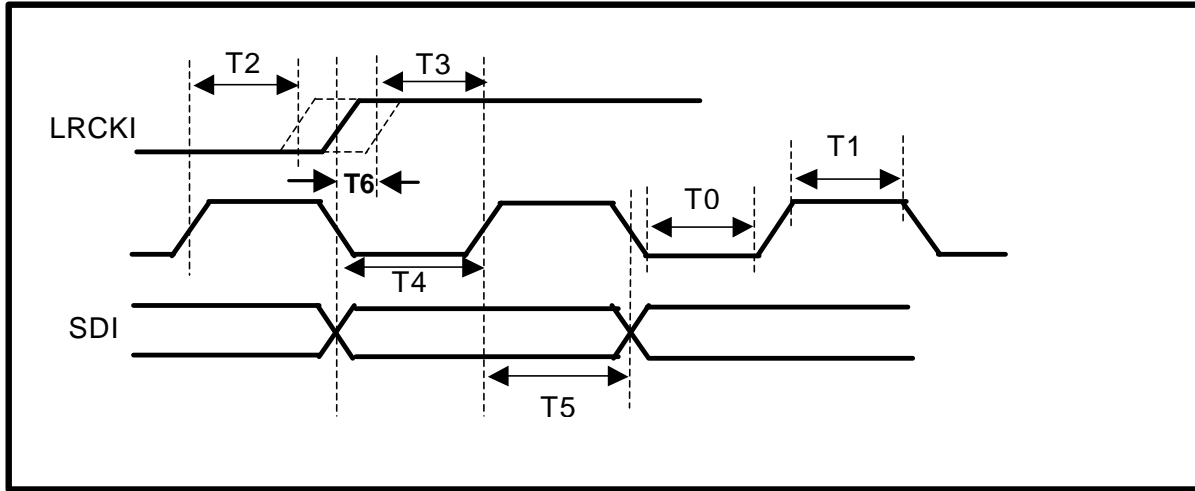

Figure 3. Input Switching Characteristics.
3.1. I²S Input switching characteristics (10pF load, F_{sm} = 32 to 96kHz) (Refer to Figure 3)